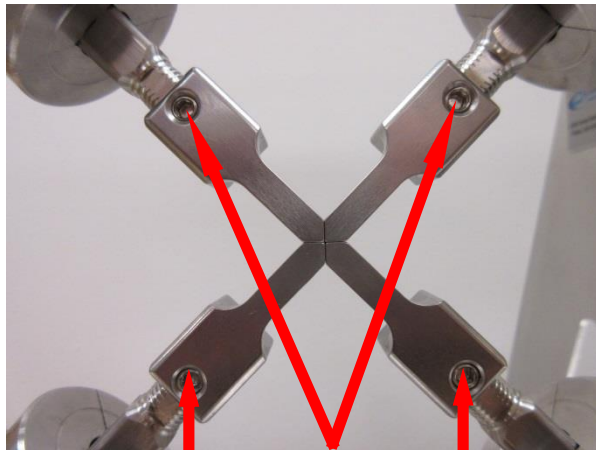
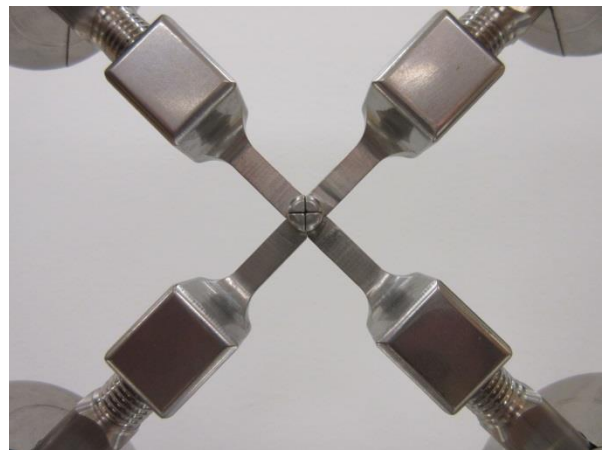

Figure 1
Figure 2
- Break loose the set screws on all four (4) jaws using a 1/8" hex wrench. (**Figure 1**)
- Adjust the jaws by letting all four (4) jaws come together (they will somewhat self-align) twisting the jaw slightly by hand or using an 11/16 open end wrench will ensure that the jaws are properly seated together. (**Figure 2**)
- Once aligned use the 1/8" hex wrench to tighten all four (4) set screws in the jaws. (**Figure 1**)
- The jaws should form a tight circle when properly aligned, no gaps between jaws. (**See figure 2**)
- Place the end of the tubing to be expanded over the ends of **all four (4)** expander jaws to the depth needed to allow the barb to be inserted properly.
- Remove all four (4) set screws on the jaws using a 1/8" hex wrench. **(Figure 1)**
- Ensure that the jaws are aligned properly, as shown in **Figure 1 & 2**. Using a 1/8” hex wrench, tighten the set screws on each jaw after you have the jaws properly aligned. **(Figure 2)**